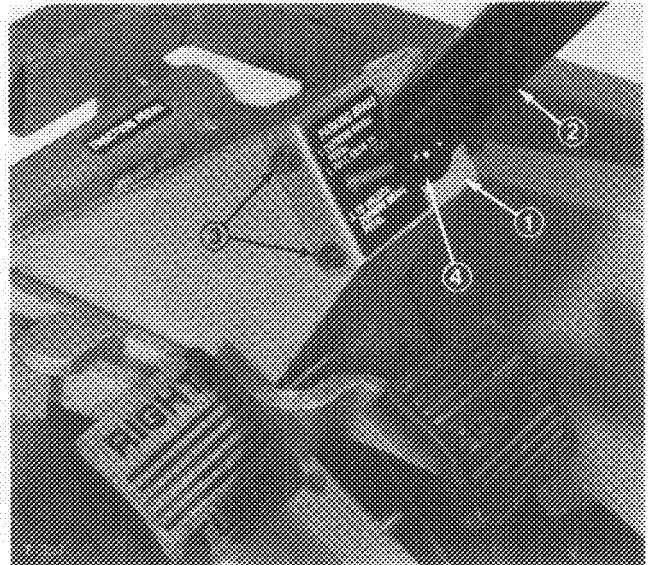

Figure 3
4. Slide steering column support onto steering post and parking brake rod (Fig. 3). Mount the support on top of steering tower with four self-tapping screws (1/4 - 20 x 5/8 in. - 16 mm).